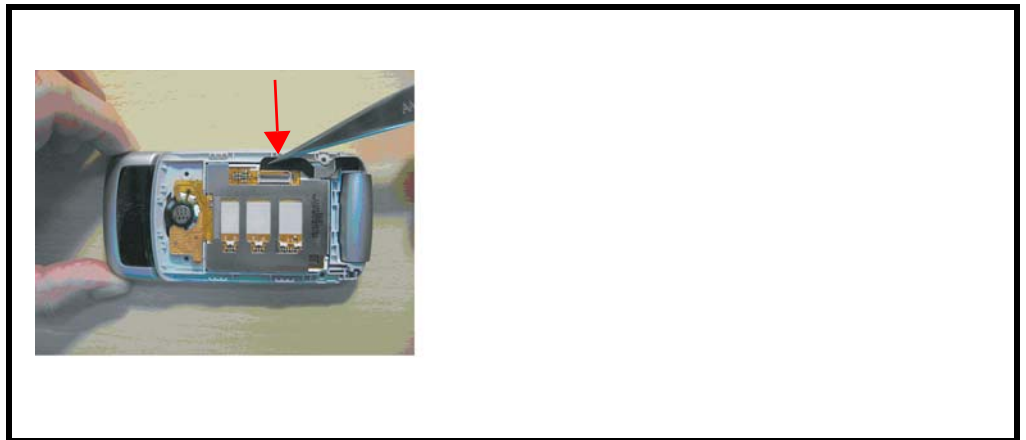

Figure 37. Replacing FPC
6. Insert the BTB-FPC into the connector as shown in Figure 37.